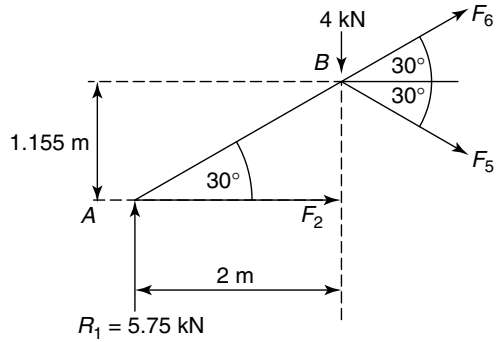

Figure 4.41
**Taking moments about B;** see Figure 4.41.
where  $2 \tan 30^\circ = 1.155 \text{ m}$  (from Figure 4.41)